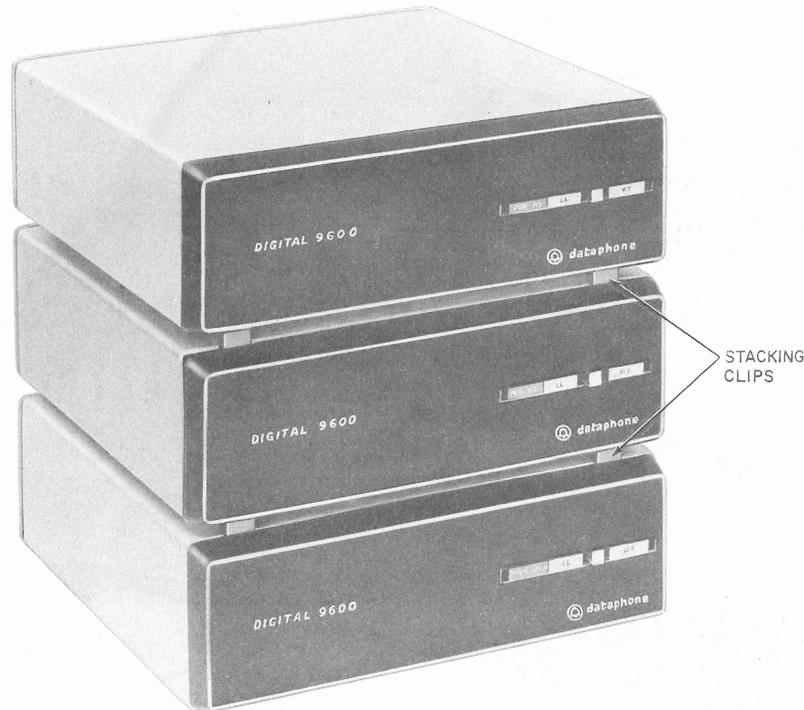

Fig. 6—Multiple Installation—Stacked Arrangement Using Clips for a Maximum of Three DSUs
3.09 For multiple installations, three DSUs may be stacked without exceeding the maximum internal operating temperature. The four clips supplied with each DSU are used to support the center and top DSUs. They are inserted into the slots provided on the dovetail feet as shown in Fig. 6. When the sets are stacked, the tabs drop into the holes provided in the top of the plastic faceplates and provide a secure, stacked arrangement.